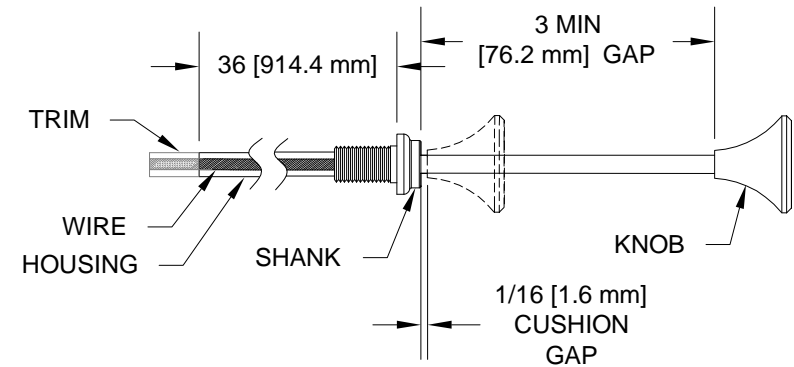

FIGURE 1: CABIN HEAT CABLE
Step 3: Pull the knobs of the CT A-740 Black Push Pull Cables (For Cabin Heat) out until there is large (greater than 3 in. [76.2 mm]) gap between the knobs and the shanks. See Figure 1.
Step 4: Use a die grinder to trim the cabin heat housings and wires to the length called out in Figure 1.
Step 5: Push the knobs of the cabin heat cables in until the "cushion gap" remains between the knob and shank. See Figure 1.